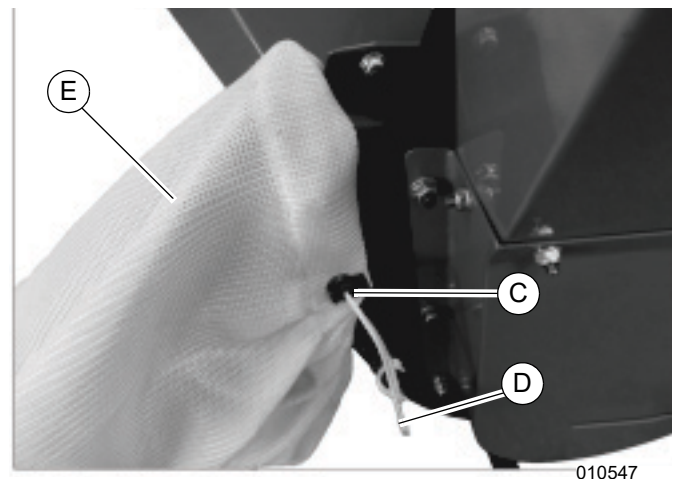

Figure 3-4. Installing Collection Bag (2 of 2)
1. See Figure 3-4. Squeeze rope lock (C) and pull rope (D) to cinch collection bag (E) tightly around the housing tabs then release the rope lock